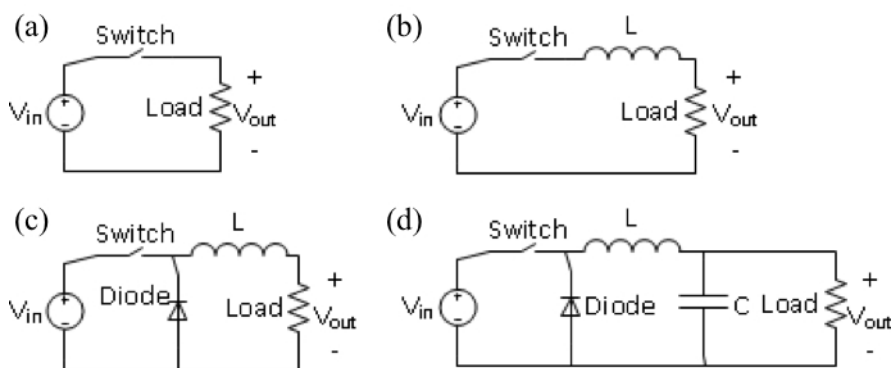

Figure 1. Steps to building a buck converter
In order to construct a buck-converter, we can start with the circuit shown below in Fig. 1(a). When the switch is on for a portion (D) of the switching period (T), the output voltage (V_o) and input voltage (V_{in}) are equal. When the switch is off for a portion ($1-D$) of the period, the output voltage is zero. This produces a square-wave output voltage whose average (shown by brackets $\langle \rangle$) is less than that of the input voltage: $\langle V_o \rangle = V_o D + V_o(1-D) = V_{in}D + 0(1-D) = V_{in}D$.
In order to minimize the output current ripple, and thus the output voltage ripple with a resistive load, an inductor is added as shown in Fig. 1(b). The issue with an inductor is that it maintains current flow until all its stored energy is released, so if the switch turns off, a large di/dt will occur across the switch since current has to flow. Therefore, a freewheeling diode is added to provide an inductor current path as shown in Fig. 1(c). However, the inductor's inductance will have to be very large in order to have very low output voltage ripple, and a capacitor must be added to reduce the inductor size and provide a clean DC voltage output at the load as shown in Fig. 1(d).